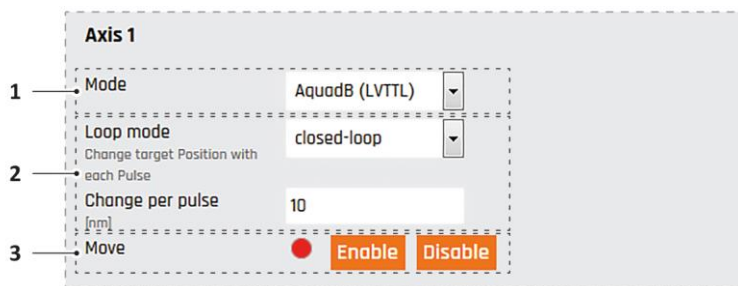

Figure 30 Input tile, "Axis" section
1. Click on the arrow of the signal mode selection field (Figure 30/1).
- To set the communication parameters, type in the desired values into the input parameter setting fields (Figure 30/2).
- To activate real time input, click [Enable] on the input activation control (Figure 30/3).
- To deactivate real time input, click [Disable] on the input activation control (Figure 30/3).